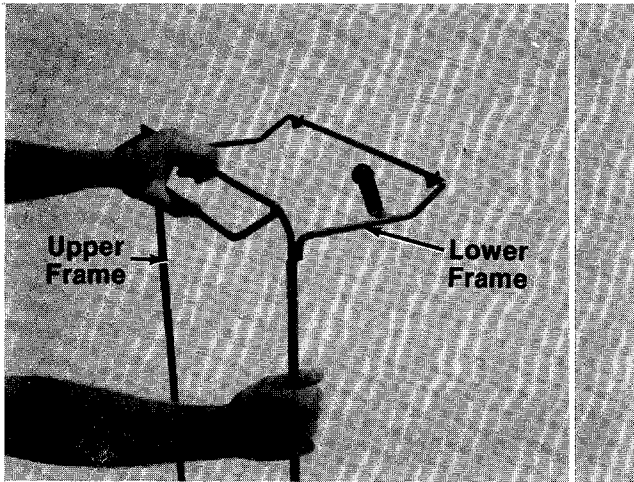

FIGURE 14.
1. Join the upper frame and lower frame assembly as shown in figure 14.